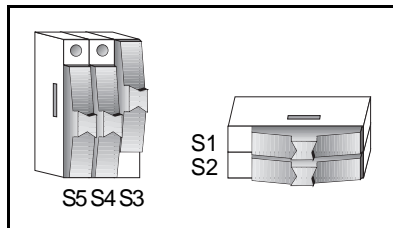

Figure 6. Switch Configuration for General-Purpose Use with a 68-Pin Board
- For use with a 68-pin board, you can bypass all of the circuitry using the switch configuration shown in Figure 6. Notice that when switches S1, S2, and S3 are set as shown in Figure 6, the temperature sensor and accessory power are off.